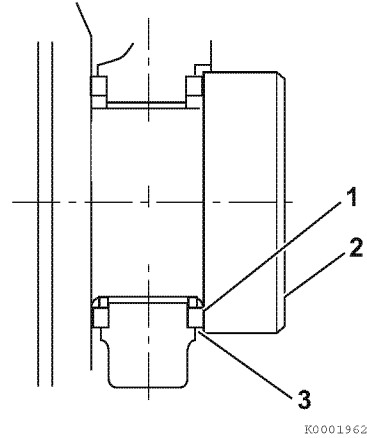

Figure 6-60
- **Method B:** Use a feeler gauge to measure the clearance (**Figure 6-60, (3)**) between the thrust bearing (**Figure 6-60, (1)**) and crankshaft (**Figure 6-60, (2)**). Record the measurement. See *Thrust Bearing* on page 6-10 for the service limit.